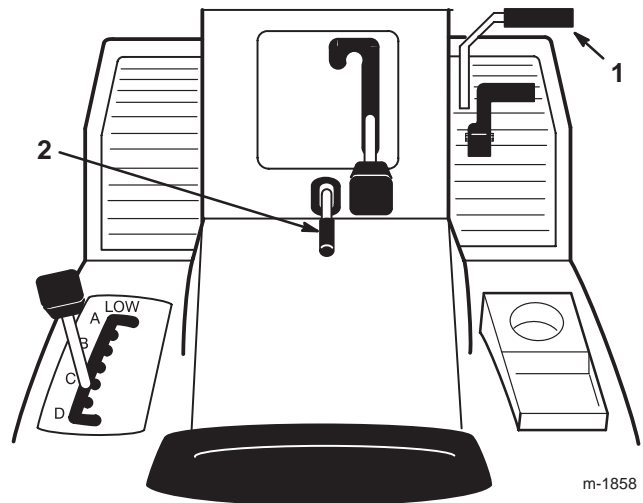

Figure 3
1. Push the clutch/brake pedal (Fig. 3) down and hold it in the depressed position.
2. Lift the parking brake lever (Fig. 3) up and gradually take your foot off of the clutch/brake pedal. The clutch/brake pedal should stay in the depressed (locked) position.
1. Push down on the clutch/brake pedal (Fig. 3). The parking brake lever should release.